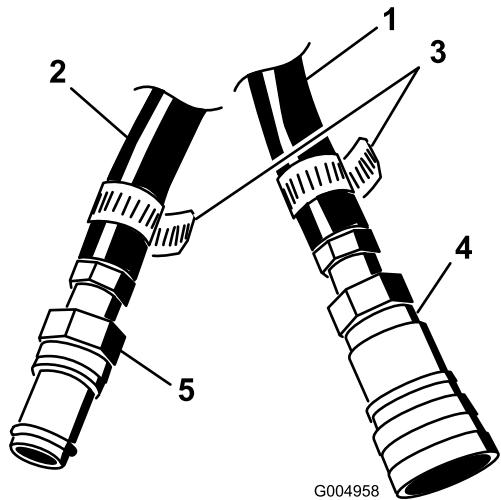

Figure 12
- Insert the barb end of a nipple coupler into the pressure hose and secure with a hose clamp (Figure 12).
- 6. Insert the barb end of a quick disconnect coupler into the return hose and secure with a hose clamp (Figure 12).